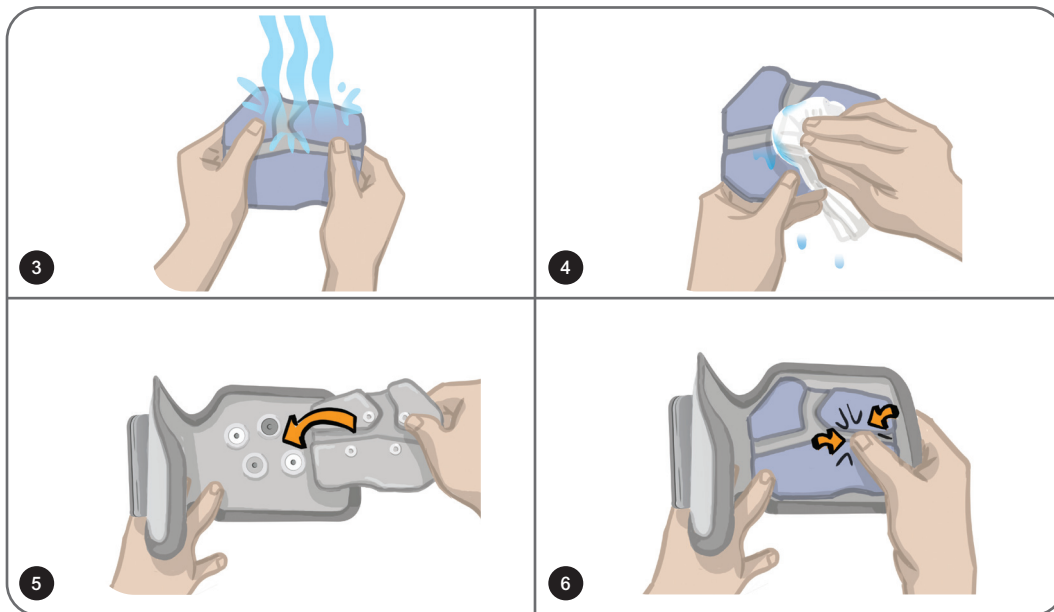

Figure 11-4: Replacing the Steering Electrode
**To replace the Steering Electrodes: (See Figure 11-4)**